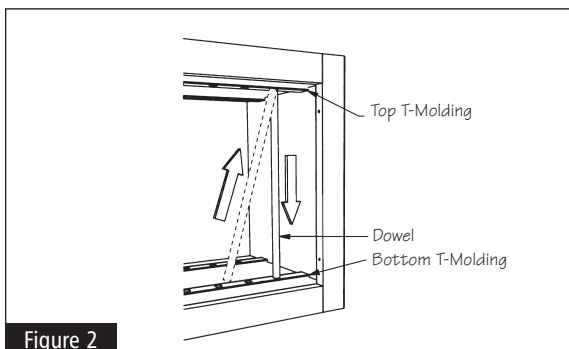

Figure 2
- 1** Remove the dowel from the cabinet by lifting the dowel up into the top T-Molding and removing the bottom of the dowel first. See Figure 2.
- 3** Insert one end of the dowel completely into the top T-Molding and then insert the other end into the bottom T-Molding. The dowel should slide down into the bottom T-Molding without coming out of the top T-Molding. See Figure 2.